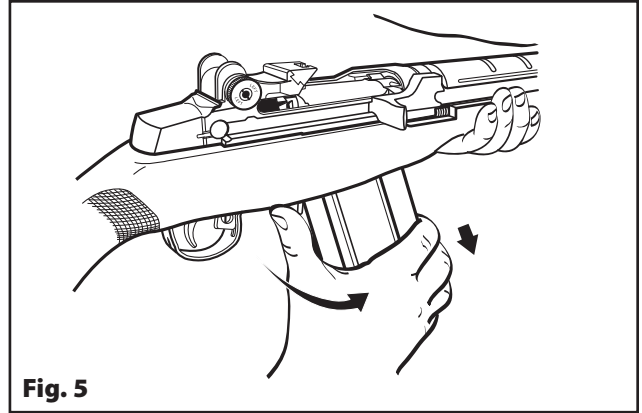

Fig. 5
1. **Place the firearm on safety, point it in a safe direction,** and remove the magazine. Push the magazine release with your thumb and rock the magazine down and forward [see figure 5].